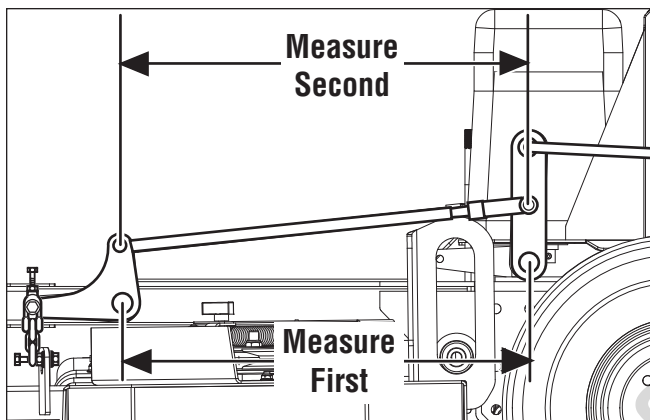

Figure 22. Measure and Adjust Deck Lift Rod Timing
- 3b. Position the deck height plate (C) so that the cutout is centered on the notched area (D) on the deck lift rod (E).
4. To check the deck lift rod timing, measure and record the distance between the lift pivots and the rod pivots. Repeat for other side of unit. See Figure 22.